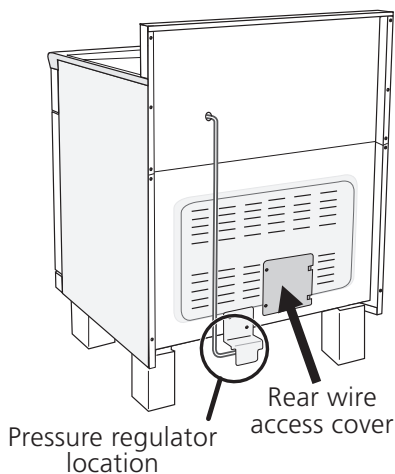

Figure 7 - 30" Range
1. Remove the screws at the lower end of the rear wire access panel or cover, then remove the access cover or lift the lower part of the access panel to expose range terminal connection block (Fig. 7 or 8).
1. Remove the screws at the lower end of the rear wire access cover or panel, then remove the access cover or lift the lower part of the access panel to expose range terminal connection block (Fig. 7 or 8).